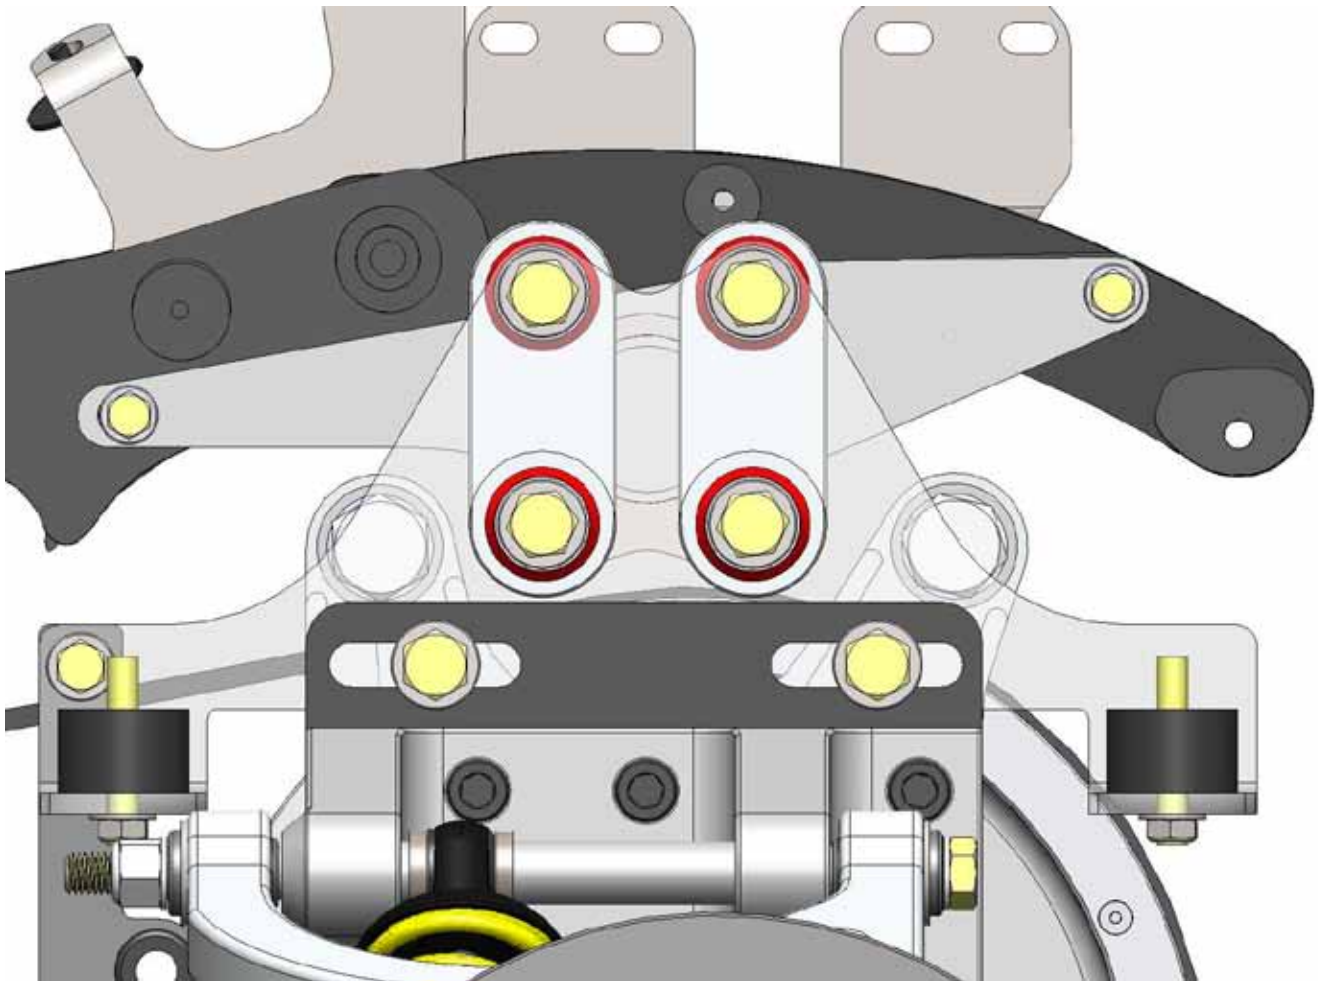

Figure 15
- a. Prior to Torquing down the top 1/2" bolts, ensure that vibration rockers are close to vertical (+ or - a few degrees is not a problem) as shown in Figure 15.